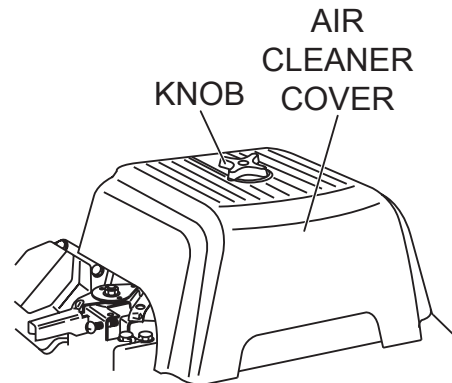

Figure 14. Air Cleaner Cover Removal
1. Unscrew the knob on top of the air cleaner cover and remove cover (Figure 14). Set knob and cover aside.